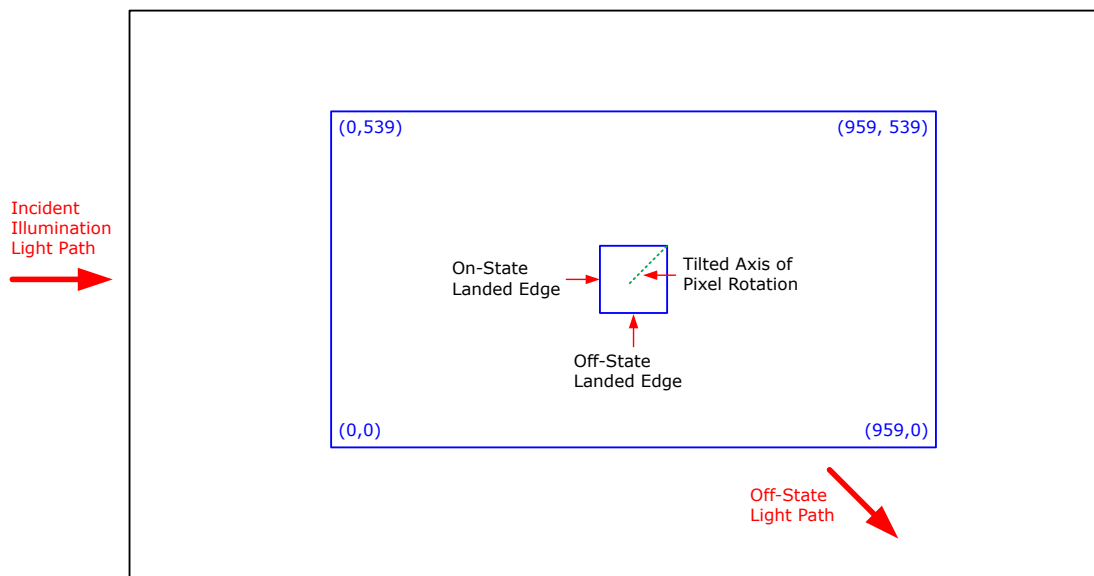

図 5-17. Landed Pixel Orientation and Tilt
- (1) Measured relative to the plane formed by the overall micromirror array.
- (2) Additional variation exists between the micromirror array and the package datums.
- (3) Represents the landed tilt angle variation relative to the nominal landed tilt angle.
- (4) Represents the variation that can occur between any two individual micromirrors, located on the same device or located on different devices.
- (5) For some applications, it is critical to account for the micromirror tilt angle variation in the overall system optical design. With some system optical designs, the micromirror tilt angle variation within a device may result in perceivable non-uniformities in the light field reflected from the micromirror array. With some system optical designs, the micromirror tilt angle variation between devices may result in colorimetry variations, system efficiency variations or system contrast variations.
- (6) When the micromirror array is landed (not parked), the tilt direction of each individual micromirror is dictated by the binary contents of the CMOS memory cell associated with each individual micromirror. A binary value of 1 results in a micromirror landing in the ON state direction. A binary value of 0 results in a micromirror landing in the OFF state direction. See Figure 5-17.
- (7) Micromirror tilt direction is measured as in a typical polar coordinate system: Measuring counter-clockwise from a 0° reference which is aligned with the +X Cartesian axis.
- (8) The time required for a micromirror to nominally transition from one landed state to the opposite landed state.
- (9) The minimum time between successive transitions of a micromirror
- (10) Conditions of Acceptance: All DMD image quality returns will be evaluated using the following projected image test conditions: